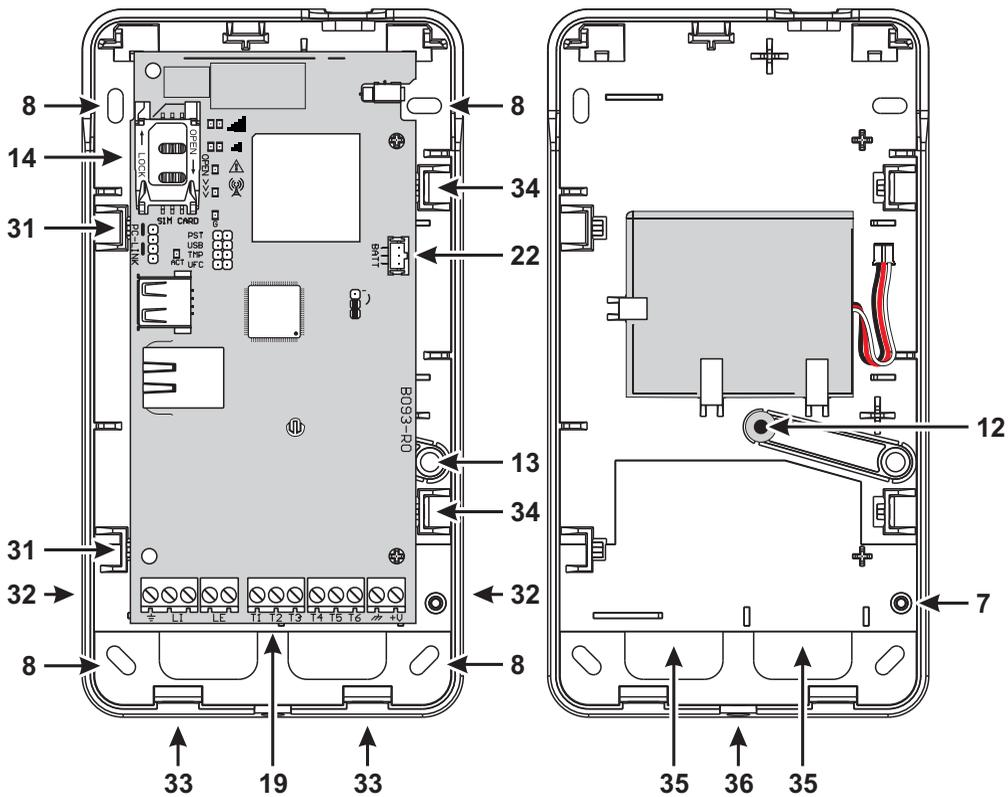

Figure 3 – Installing the communicator with housing.
The version with housing must be mounted to a wall with screws and plugs (not included) as described below and shown in figure 3.
4. Fit the battery as shown in figure 3.